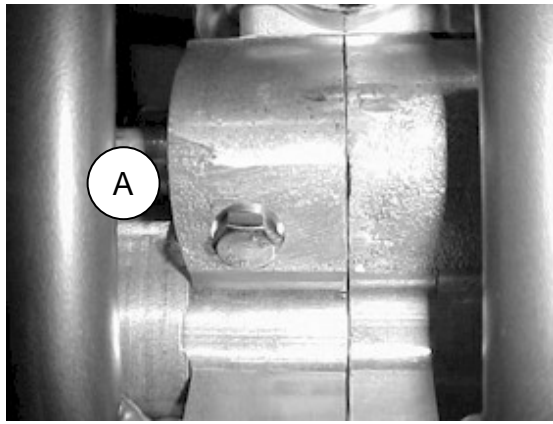

Figure 28
- Remove the coolant drain plug (A) on the front of the engine case (figure 28).